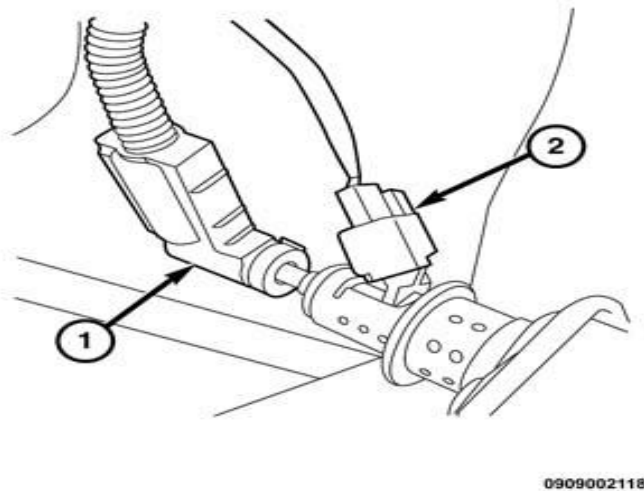

Fig. 4 DEF Injector
8. Disconnect the urea supply line by pinching the white tabs together and pulling connector off of the urea injector (Fig. 4). Clean and dry any drained urea that may come out of supply line.